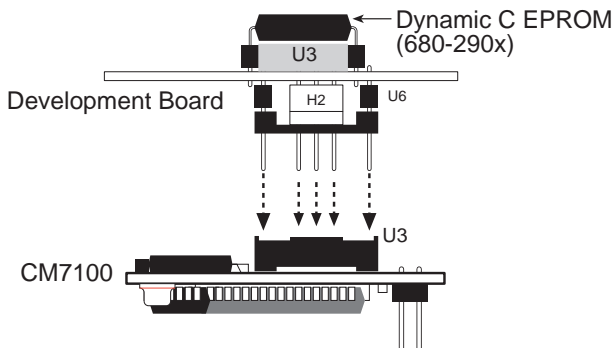

Figure 2-8. Installation of CM7100 Development Board and Development EPROM
4. If an EPROM is installed in socket U3 on the CM7100, remove the EPROM. Plug a Dynamic C development EPROM (Z-World part number 680-290x) into the EPROM socket (U3) of the Development Board. See Figure 2-8.
5. Plug the Development Board into the EPROM (U3) and H3 sockets on the CM7100 as shown in Figure 2-8. Headers U6 and H2 on the underside of the Development Board must match the CM7100 EPROM and H3 sockets exactly.
2. If an EPROM is installed in socket U3 on the CM7100, remove the EPROM. Plug a Dynamic C development EPROM (Z-World part number 680-290x) into the EPROM socket (U3) of the Development Board. See Figure 2-8.
3. Plug the Development Board into the EPROM (U3) and H3 sockets on the CM7100 as shown in Figure 2-8. Headers U6 and H2 on the underside of the Development Board must match the CM7100 EPROM and H3 sockets exactly.